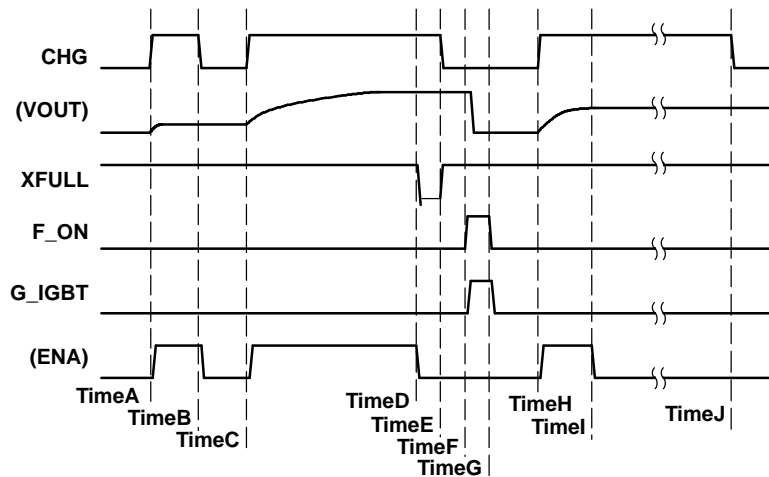

Figure 4. Whole Operation Sequence Chart
The only way to *start* charging is to input  $\text{CHG}\uparrow$  (see time A/C/H in Figure 4). Each time  $\text{CHG}\uparrow$  is reached, the TPS65552A starts charging.
1. Forced *stop* by inputting  $\text{CHG} = \text{L}$  from the controller (see timeB in Figure 4).
2. Automatic *stop* by detecting full charge. VOUT reaches the target value (see TimeD in Figure 4).
3. Protected *stop* by over  $V_{\text{DS}}$  detection (see TimeI in Figure 4).
The device starts charging at timeH, and over  $V_{\text{DS}}$  protection occurs at TimeI (see Figure 4). At timeI, XFULL stays H, and the controller detects over  $V_{\text{DS}}$  protection when the timer ends at timeJ. In this event, the controller inputs  $\text{CHG} = \text{L}$  to terminate the operation.
The IGBT driver provided by the TPS65552A is a simple buffer in the logical table. Table 3 shows the function (see Figure 4).
To avoid the stress of power dissipation, the TPS65552A provides an overvoltage monitor function at the SW terminal. If this protection occurs, the overvoltage status is latched (see Figure 4 and its descriptions).